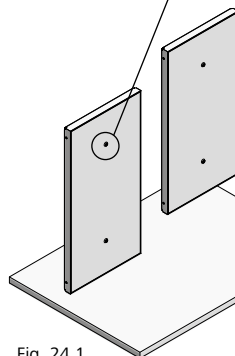
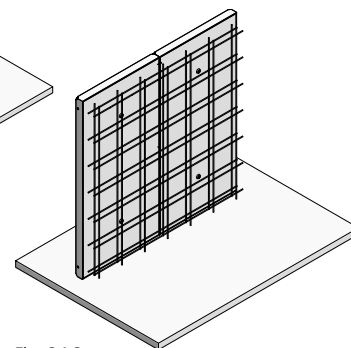

Fig. 24.1
Fig. 24.2
1. Place initial-formwork panel (Fig. 24.1 and ST-XT-5), and carry out boxout work (Fig. 24.2).